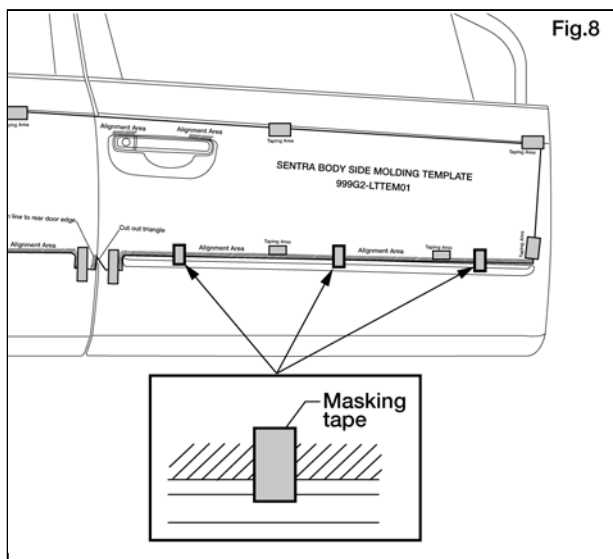

Fig.8
- d) While holding in position, apply three pieces of two-inch (51 mm) long masking tape to the template and body side molding at the front, middle, and rear. (Fig. 8)